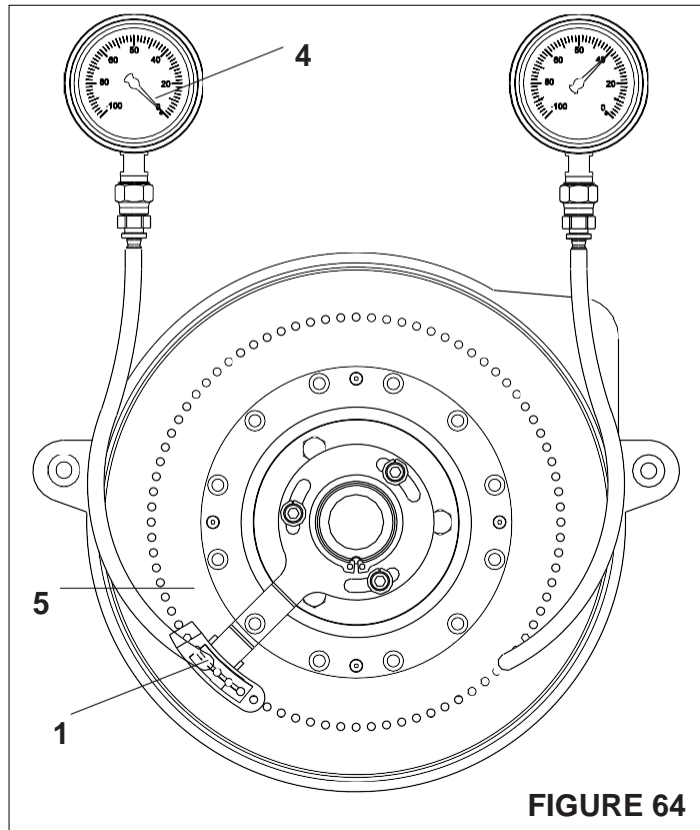
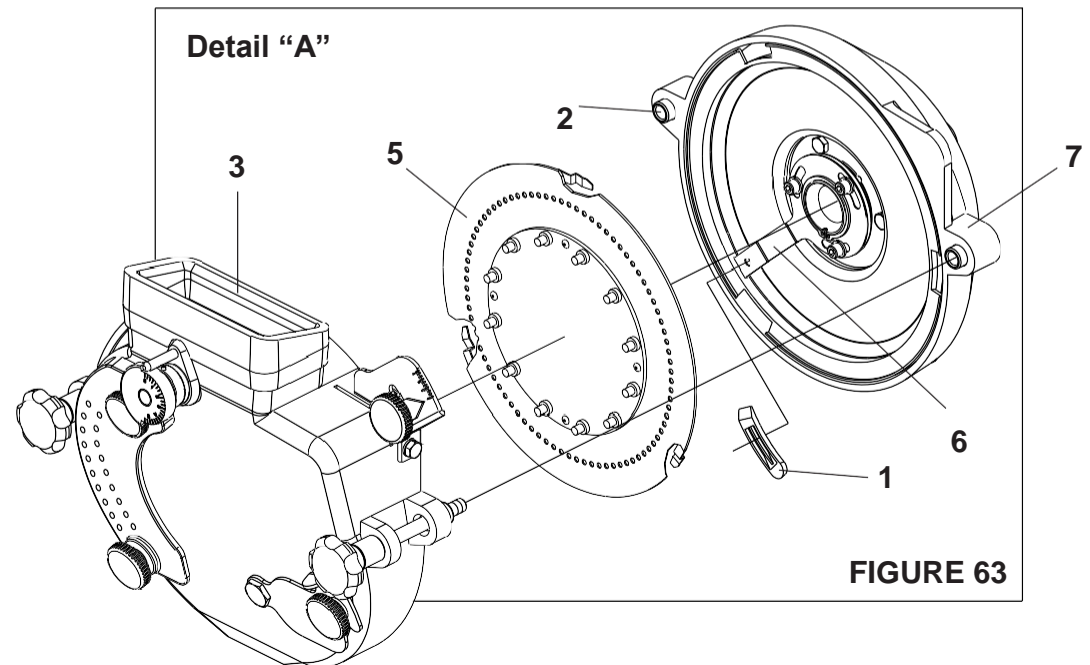

FIGURE 64
FIGURE 63
VACUUM LEVEL IN PERFORATED DISCS (FIGURES 63/64)
- 4 - Check the correct operation of the vacuum switch (1) every 20 hours, (FIGURE 63) in the following way:
- 5 - Remove the dispenser cover (2) of the distributor display (3) (FIGURE 63).
- 07 - Take the vacuum gauge (4) and place the end of its hose into a seed hole of the perforated stainless steel disc (5). According to (FIGURE 64)
- 09 - After checking the vacuum level in the disc hole, place the end of the hose in the vacuum gauge hose (4) into the hole on the vacuum switch that must be zero, i.e., the vacuum level should drop to zero. Otherwise, the vacuum switch should be replaced (1). According to (FIGURE 64)
- 10 - To replace the vacuum switch (1), disengage the perforated seed disc of stainless steel (5), removing it from the support (6) and replacing it.
- 11 - The vacuum switch support (6) is fixed to the dispenser rotor (7). This adjustment is made at the factory and should not be modified. According to detail "A" (FIGURE 63)